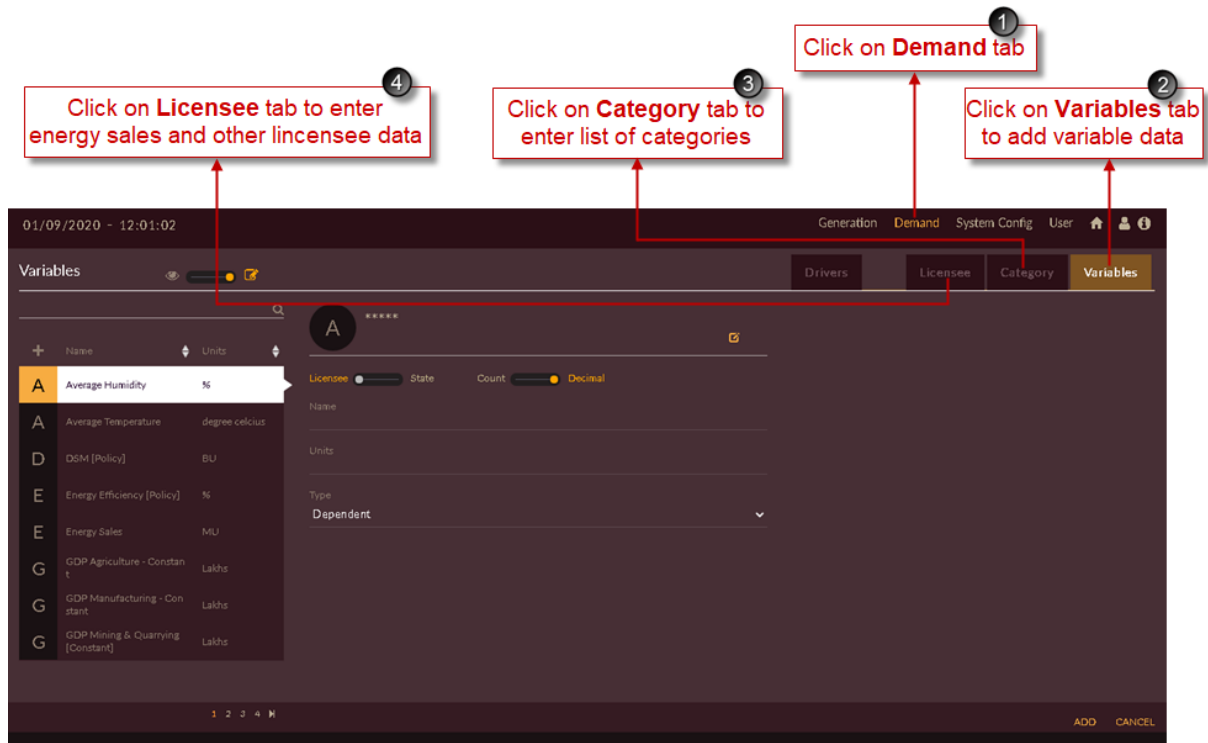

Figure 3. Demand Forecast Home Page
1. Login to the software and click on the **Demand** tab, the Demand tab appears as shown in Figure 3.